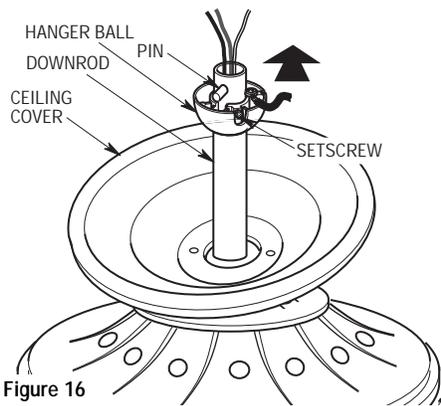

Figure 16
- 16. Reinstall the hanger ball on the downrod (Figure 16) as follows. Route the motor leads through the hanger ball and slide the hanger ball over the downrod. Install the pin through the holes at the top of the downrod and slide the hanger ball up the downrod, aligning the ball so the pin is captured in the groove in the top of the hanger ball. Pull the hanger ball up tight against the pin and securely tighten the setscrew in the hanger ball. A loose setscrew could create fan wobble.